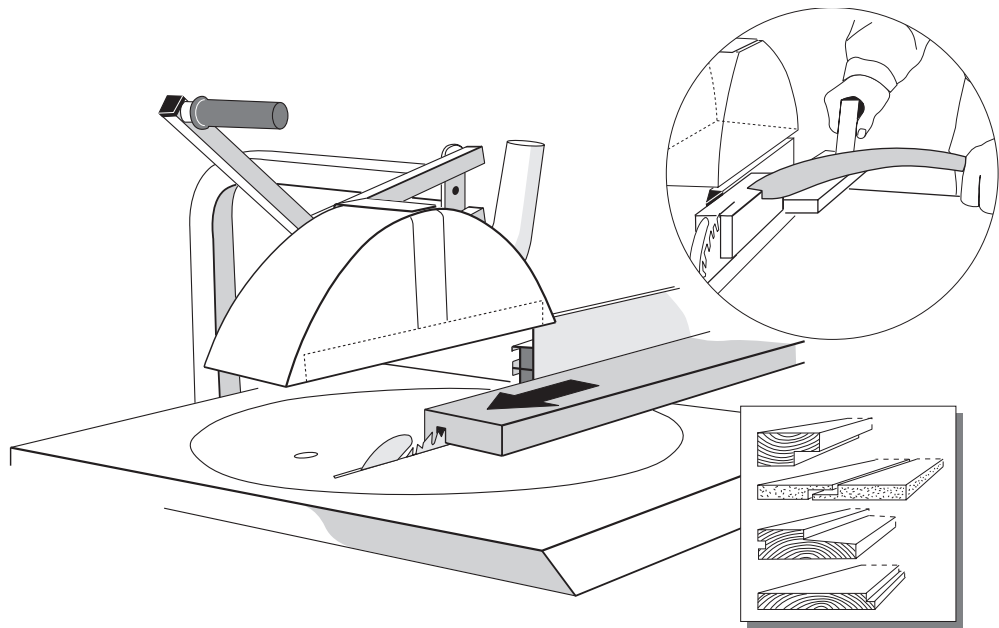

Fig. 16
- Adjust fence and repeat operation until groove is the required width. See Fig. 16.